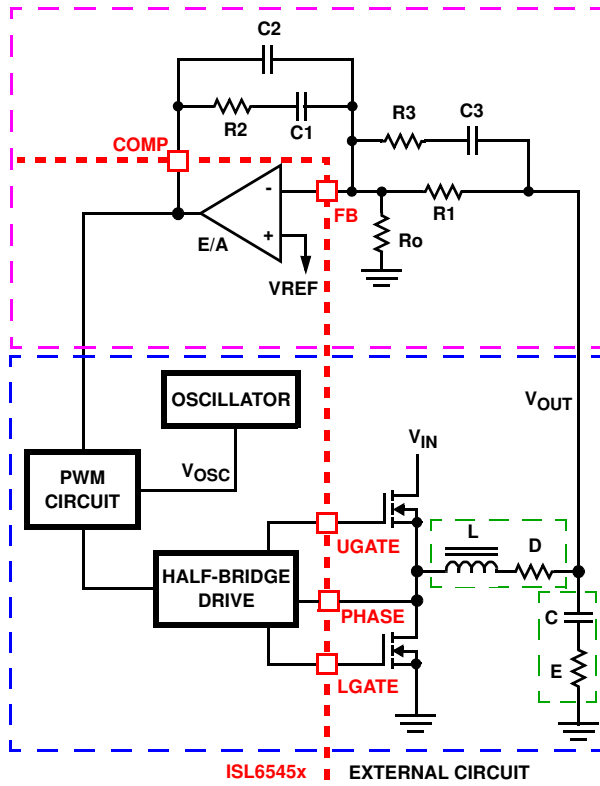

FIGURE 9. VOLTAGE-MODE BUCK CONVERTER COMPENSATION DESIGN
This section highlights the design consideration for a voltage-mode controller requiring external compensation. To address a broad range of applications, a type-3 feedback network is recommended, as shown in the top part of Figure 9.
Figure 9 also highlights the voltage-mode control loop for a synchronous-rectified buck converter, applicable to the ISL6545x circuit. The output voltage ( $V_{OUT}$ ) is regulated to the reference voltage,  $V_{REF}$ . The error amplifier output (COMP pin voltage) is compared with the oscillator (OSC) modified sawtooth wave to provide a pulse-width modulated wave with an amplitude of  $V_{IN}$  at the PHASE node. The PWM wave is smoothed by the output filter (L and C). The output filter capacitor bank's equivalent series resistance is represented by the series resistor E.
The compensation network consists of the error amplifier (internal to the ISL6545x) and the external R1-R3, C1-C3 components. The goal of the compensation network is to provide a closed loop transfer function with high 0dB crossing frequency ( $F_0$ ; typically 0.1 to 0.3 of  $F_{SW}$ ) and adequate phase margin (better than 45°). Phase margin is the difference between the closed loop phase at  $F_{0dB}$  and 180°. The equations that follow relate the compensation network's poles, zeros and gain to the components (R1, R2, R3, C1, C2, and C3) in Figure 9. Use the following guidelines for locating the poles and zeros of the compensation network:
1. Select a value for R1 (1kΩ to 5kΩ, typically). Calculate value for R2 for desired converter bandwidth ( $F_0$ ). If setting the output voltage via an offset resistor connected to the FB pin,  $R_o$  in Figure 9, the design procedure can be followed as presented.